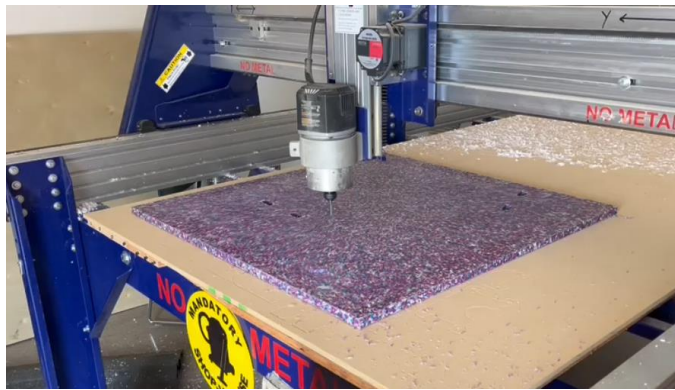

Figure 11: Sheet on the ShopBot MDF spoil board
1. Place the HDPE plastic sheet on the ShopBot medium-density fiberboard (MDF) spoil board. This can be seen in Figure 11. Verify that all corners of the HDPE sheet are properly lined up with a corner of the spoil board.